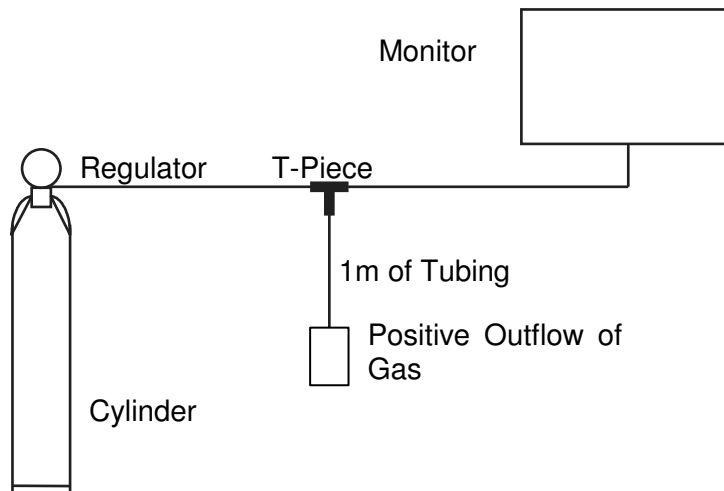

Figure 20: Connecting the calibration gas to the Guardian NG
- 15 i) To connect gas to the Guardian NG, supply the gas to the instrument via a pipe with a T-Piece and a one metre pipe running off and venting to atmosphere. (See Figure 20)